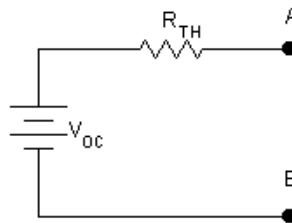

Figure 10: Thevenin Equivalent Circuit
Any linear DC circuit as seen at a pair of terminals can be reduced to a practical voltage source (an ideal voltage source in series with a resistor). See figure 10.
Calculate the Thevenin resistance using (1). Now, re-create figure 10 in PSpice using your  $v_{oc}$  and  $R_{Th}$  values. Place  $R_4$  back into your first circuit and place a resistor of equal value between terminals A and B in your Thevenin Equivalent. Run the simulation using the same “thev” profile. Once the simulation is complete, follow PSpice-> Bias Points and click Enable. This will show the node voltages and currents in throughout the circuit. Check to make sure the terminal voltages and currents match for both circuits.